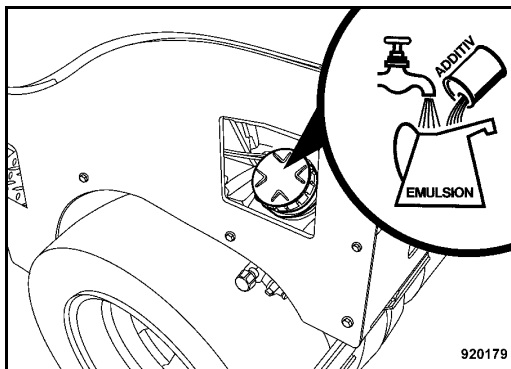

Fig. 128
- Unscrew the cover (Fig. 128) and check the emulsion level, fill up if necessary.